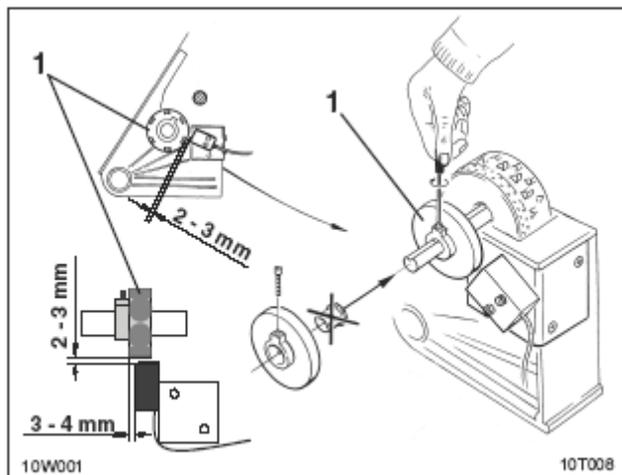

Fig. 10.2
- Attach magnet holder (Fig. 10.2/1) with 6 magnets to drilling shaft.